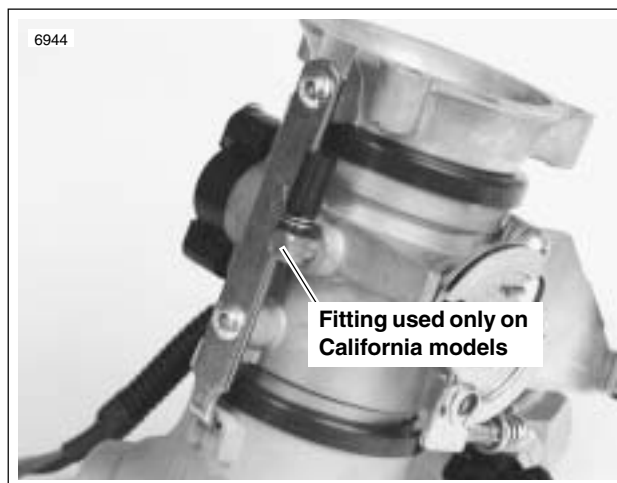

Figure 4-113. Emissions Hose Attachment
See Figure 4-113. Route the evaporative emissions control hose at the intake manifold. To gain access to the hose, remove the fuel tank and/or air cleaner and backplate assembly if necessary.
6. See Figure 4-113. Connect the canister vent hose to elbow fitting. Make sure to push hose all the way on to elbow and position hose clamp on fitting side of barb.